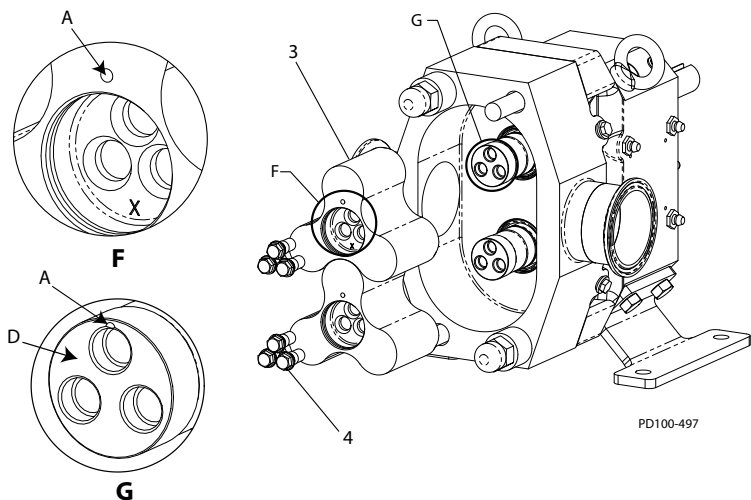

Figure 56 - Rotor Installation
2. The face of the shaft must be free of raised edges or burrs (see Figure 56, Detail G, item D).
3. **Re-using rotors:** Apply a compatible lubricant to the o-rings and install the marked rotor onto the drive shaft and the unmarked rotor onto the short shaft, making note of the alignment reference mark on the shafts for rotor positioning. (See item A in Figure 56, Detail F and G.)
Installing new rotors: Apply a compatible lubricant to the o-rings and install the rotors onto the shafts, making note of the alignment reference mark on the shafts for rotor positioning. (See item A in Figure 56, Detail F and G.) Stamp an "X" approximately 3mm high in the face of the counterbore opposite the alignment reference mark. See Figure 56, Detail F; also see Figure 31 on page 25 for a larger view.
4. Install one lug screw (Figure 56, item 4) into the hole nearest the reference mark in each rotor.